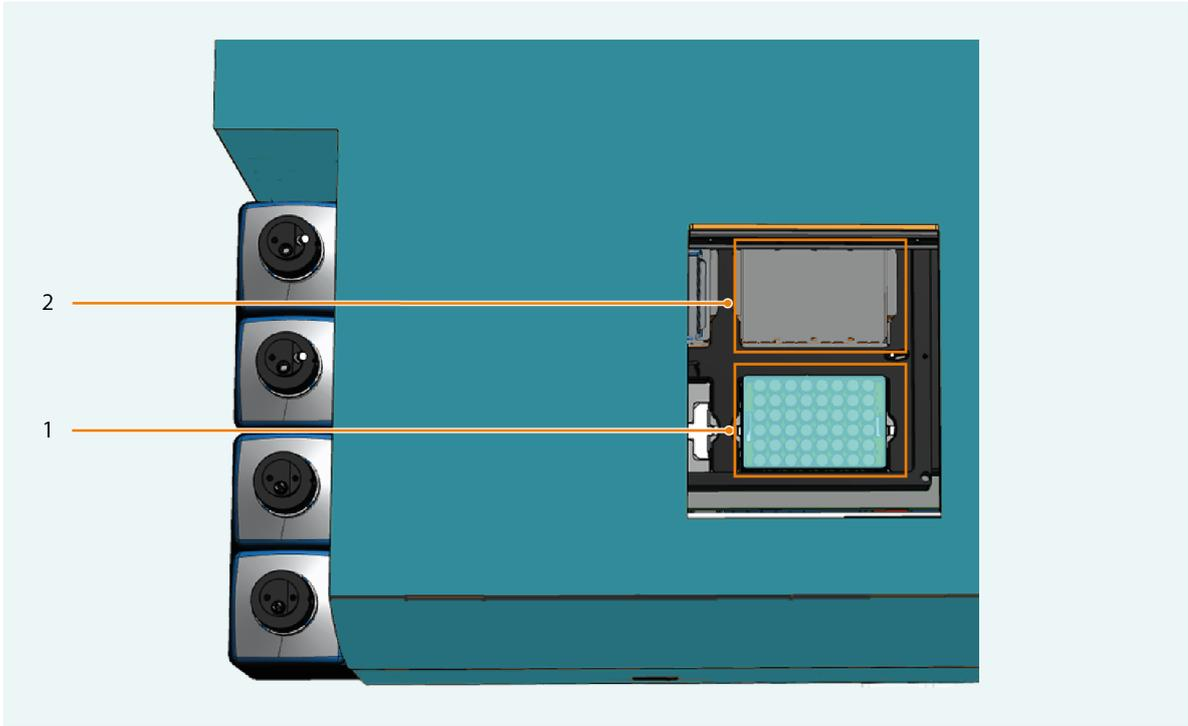

Figure 6.1: Top view of the sample chamber in the instrument
- 1 Insert the samples by placing up to four MACSwell 1/2/4 Imaging Frames on the left and/or the right imaging stage rack position(s) (**Figure 6.1**) as defined in the MACS iQ View Software Control Module.
- 1 Insert the samples by placing a MACSwell 24 Imaging Plate onto the right and/or the left imaging stage rack positions (**Figure 6.1**) as defined in the MACS iQ View Software Control Module.
- 2 Place the sealed plate(s) onto the reagent stage rack position(s) (**Figure 6.1**) as defined in the MACS iQ View Software Control Module.
- 1 Place the REAscreen plate(s) onto the reagent stage position(s) (**Figure 6.1**) as defined in the MACS iQ View Software Control Module.
- 2 Optional: Place a REAscreen plate onto the right imaging stage position (**Figure 6.1**) as defined in the MACS iQ View Software Control Module.